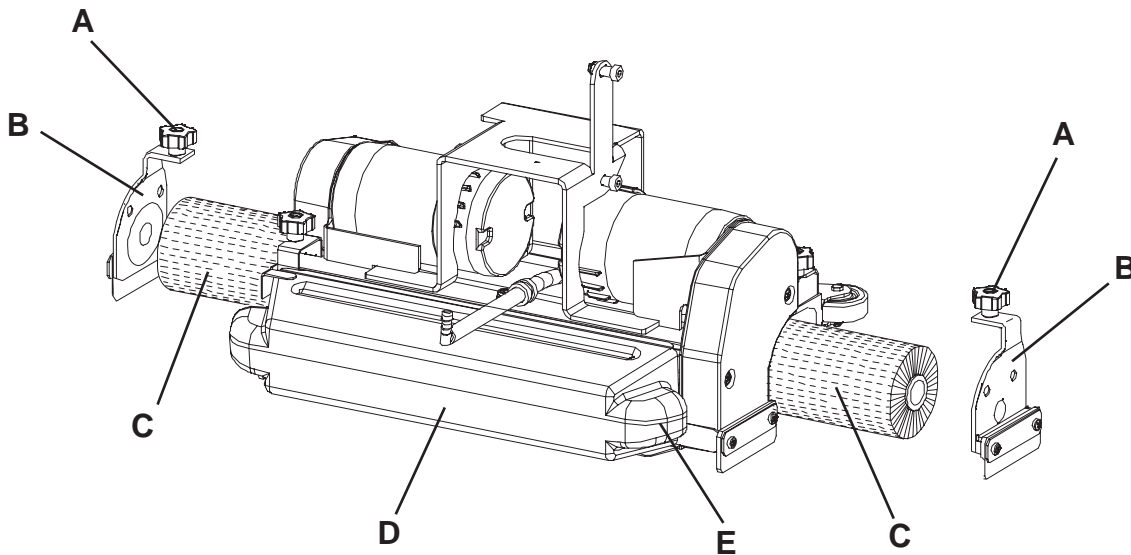

Figure 3
1. Turn the ignition key (80) to "0" position.
2. Lift the cylindrical brush deck by pressing the pedal (11).
3. Remove the handwheels (A, Fig. 3) and the lids (B) by pushing them downwards and pressing on the handwheels.
4. Install the cylindrical brushes (C).